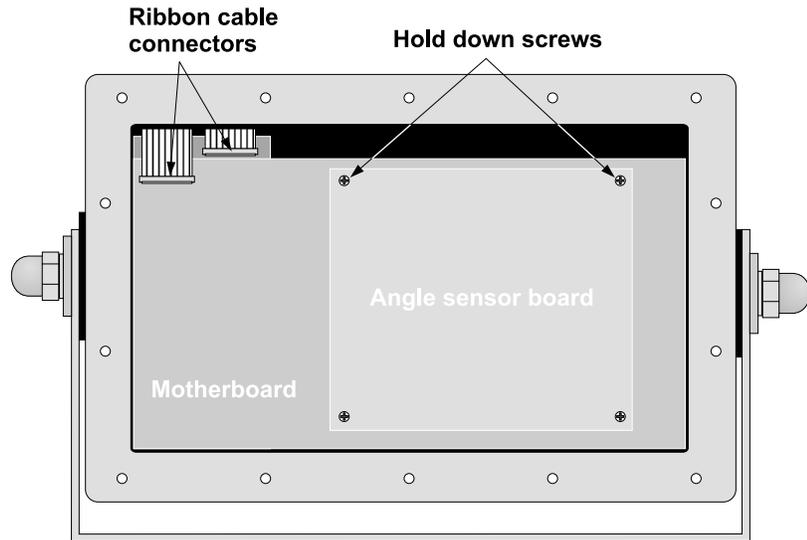

Figure 14
4. If you need to remove the main board, disconnect the ribbon cable from the main board. Refer to Figure 14. Remove the hold down screws on the angle sensor board. Remove the stand offs and screws holding the main PC board and pull it out.